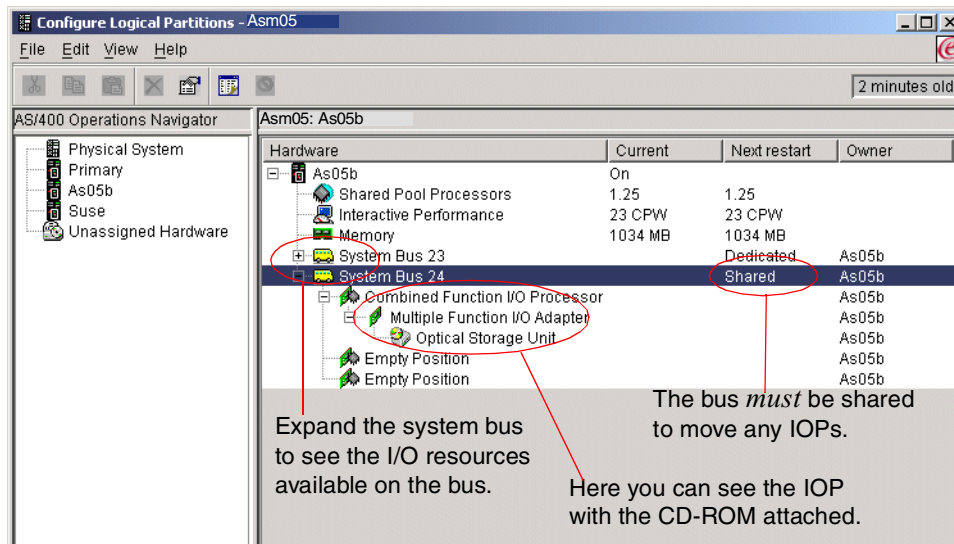

Figure 8-42 Configure Logical Partitions display: Schedule IOP move
2. Click the plus sign [+] to expand the system bus containing the IOP to be moved. In this example, we selected system bus 24 (Figure 8-42).